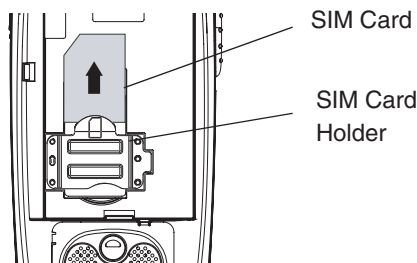

Figure 1-3. Removing a SIM Card
Inbound transmission bursts (sent from the unit) are offset 19 milliseconds from the outbound burst; the inbound burst begins 4 milliseconds after the end of the outbound burst (see Figure 1-3 on page 1-6). This offset in time allows the unit to appear capable of transmitting and receiving at the same time (it actually is switching rapidly back and forth between receiving and transmitting).
3. Gently press the tab near the bottom of the SIM card holder (see Figure 1-3).